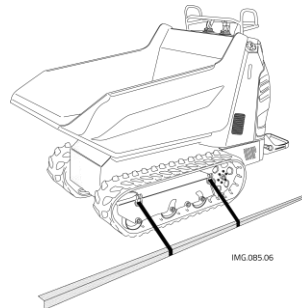

fig. 39
- Stick firmly to the floor of the means of transport through the **chain approved Cormidi** (Cod. C0260.00.3) purchased from authorized dealers Cormidi), connecting more with the points set as in Figure 39.